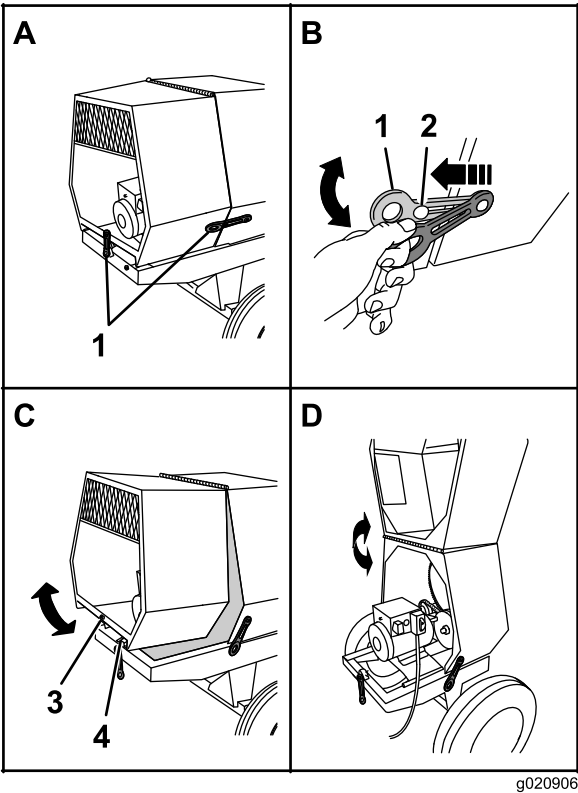

Figure 23
1. At the side of the machine where the front cowl and rear cowl meet, grasp the latch and pull it off from the latch anchor on the rear cowl (Figure 23).
3. At the back of the machine where the rear cowl meets the frame of the machine, grasp the latch and pull it off from the latch anchor on the cowl (Figure 23).
4. Rotate the rear cowl up and forward until it is fully positioned on top of the front cowl (Figure 23).
1. Rotate the rear cowl rearward and down until the receiver at the bottom center of the cowl is aligned with the V-fitting and flush on the frame of the machine (Figure 23).
4. Repeat step 3 at the opposite side of the machine (Figure 23).